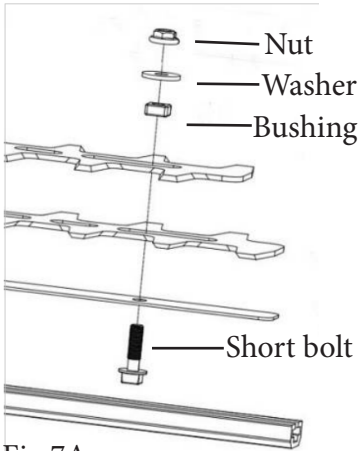

Fig.7A
a) Remove the nut, washer, bushing from the bolt at the end of the blade with a hex wrench (not included) (Fig. 7A). Save them for reassembly.